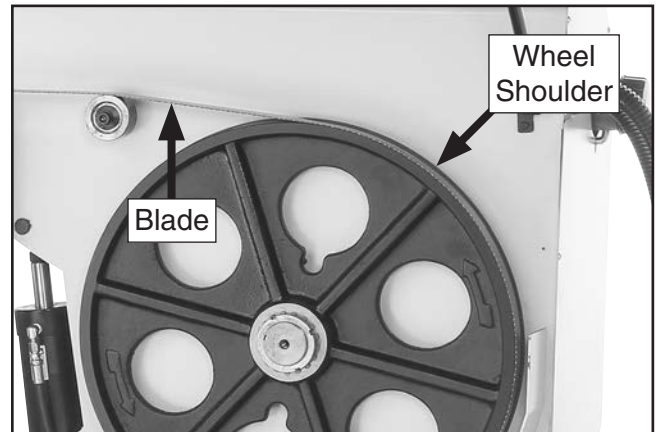

Figure 33. Blade installed on wheels.
10. Apply a light amount of tension to hold blade in place. Work your way around blade to adjust position so back of blade is against shoulder of wheels, as shown in **Figure 33**.